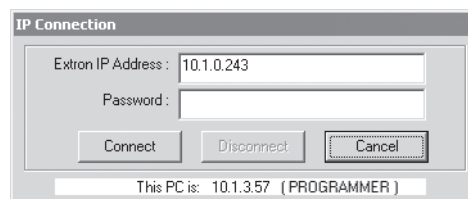

Figure 5-2 — Address and password entry
3. **If you selected *IP [LAN]* in step 2**, the IP connection window appears (figure 5-2). The window displays the last IP address that this computer was logged on to via the ISS/ISM Control program. If no one has logged on to the ISS from this computer, enter the switcher's ISS IP address. If the address has not been changed, the factory-specified default is 192.168.254.254.